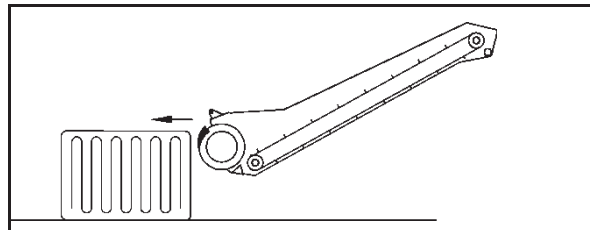

Fig. 174
7. **Pick up cuboid bales:** Lower the cutter arm according to Fig. 174 and drive slowly forward to pick up the fodder. Observe the information in the chapter "Lift / Lower cutter arm", page 169.